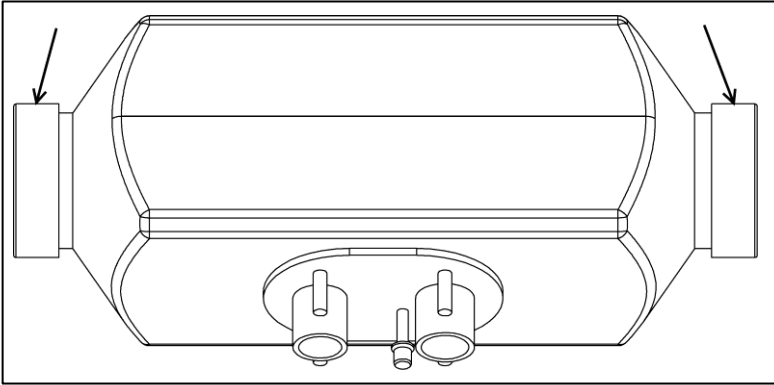

Figure 2
1. Remove both grilles on each side of the heater (Figure 2).